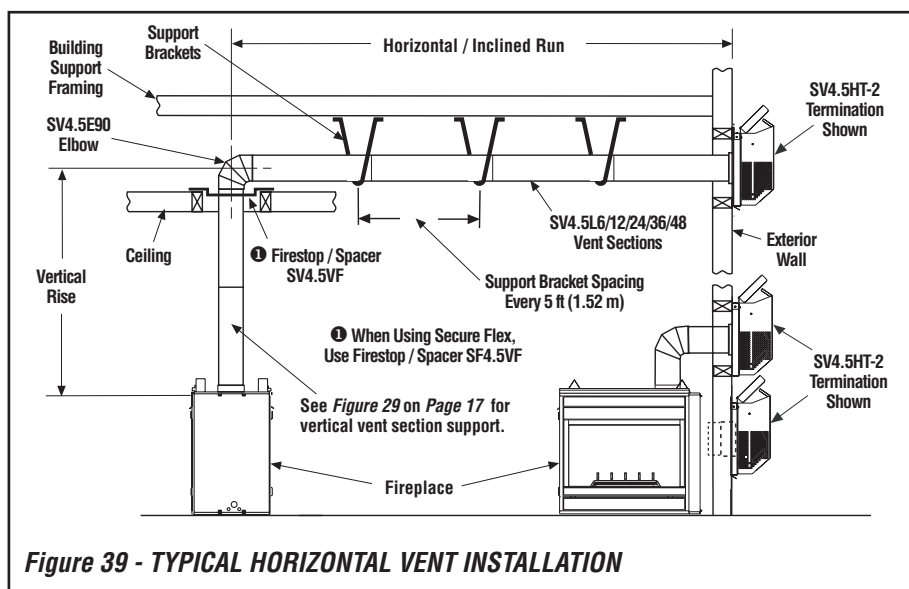

Figure 39 - TYPICAL HORIZONTAL VENT INSTALLATION
Figures 39, and Figures 42 to 47 on Pages 25 to 27 and their associated Horizontal Vent Table illustrate the various horizontal venting configurations that are possible for use with these appliances. **Secure Vent®** pipe applications are shown in these figures; **Secure Flex®** pipe may also be used. A Horizontal Vent Table summarizes each system's minimum and maximum vertical and horizontal length values that can be used to design and install the vent components in a variety of applications.
I. Continue installation of horizontal/inclined sections - Continue with the installation of the straight vent sections in horizontal/inclined run as described in **Step E**. Install support straps every 5 ft. (1.52 m) along horizontal/inclined vent runs using conventional plumber's tape. See **Figure 39**, it is very important that the horizontal/inclined run be maintained in a straight (no dips) and recommended to be in a slightly elevated plane, in a direction away from the fireplace of 1/4" rise per foot (20 mm per meter) which is ideal, though rise per foot run ratios that are smaller are acceptable all the way down to at or near level. Use a carpenter's level to measure from a constant surface and adjust the support straps as necessary.